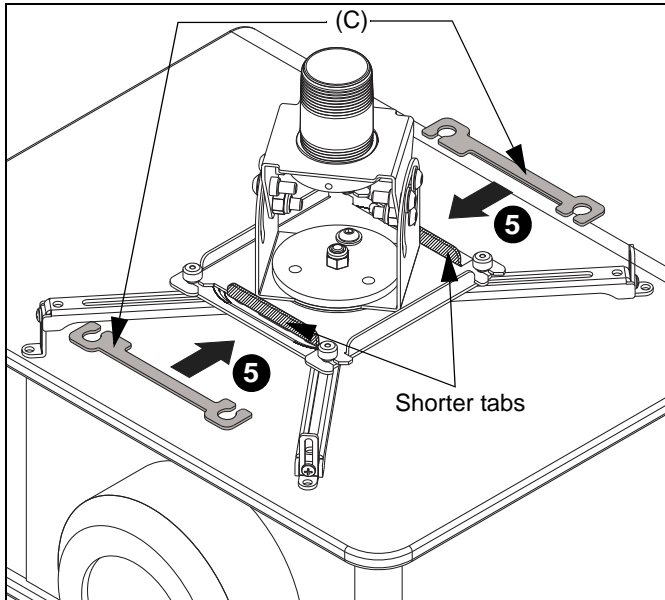

Figure 9
5. Add two slide protection brackets (C), to the two VPAU sides which have shorter tabs. (See Figure 9)
6. Secure projector to mount (See Figure 9) by completely tightening four thumb nuts.